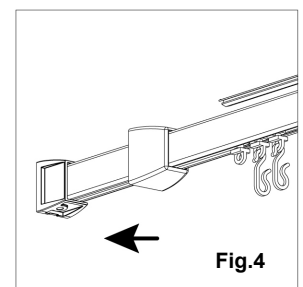

Fig.4
- 8) The assembled rail can then be pushed into the wall brackets and secured into position by tightening the screw on the top of the wall brackets. **DO NOT OVERTIGHTEN.** Slide the decorative covers over each wall bracket to complete the installation of the rail – See Fig.4
- 8) If fitting a Module 4 Profile 800 Slenderline Kit, slide the decorative covers over each wall bracket to complete the assembly – See Fig.4.